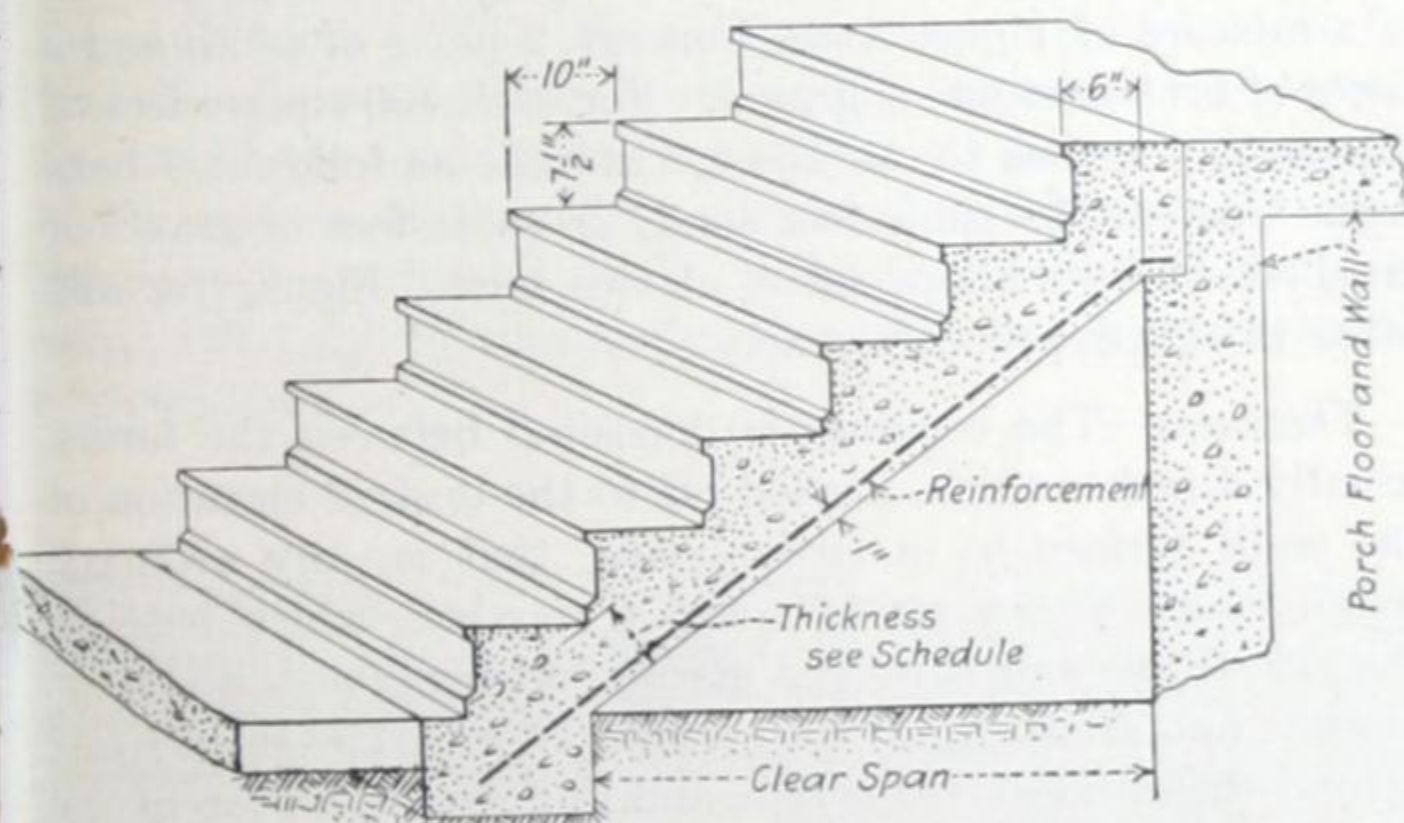

Fig. 42—Details of porch steps after completion.
*Reinforcement*—Before the concrete is poured—better yet before the risers are put in position—place the longitudinal reinforcement as shown in Figure 42. This should be 1 inch from the bottom of the slab. The amount to be used is given in the table below.